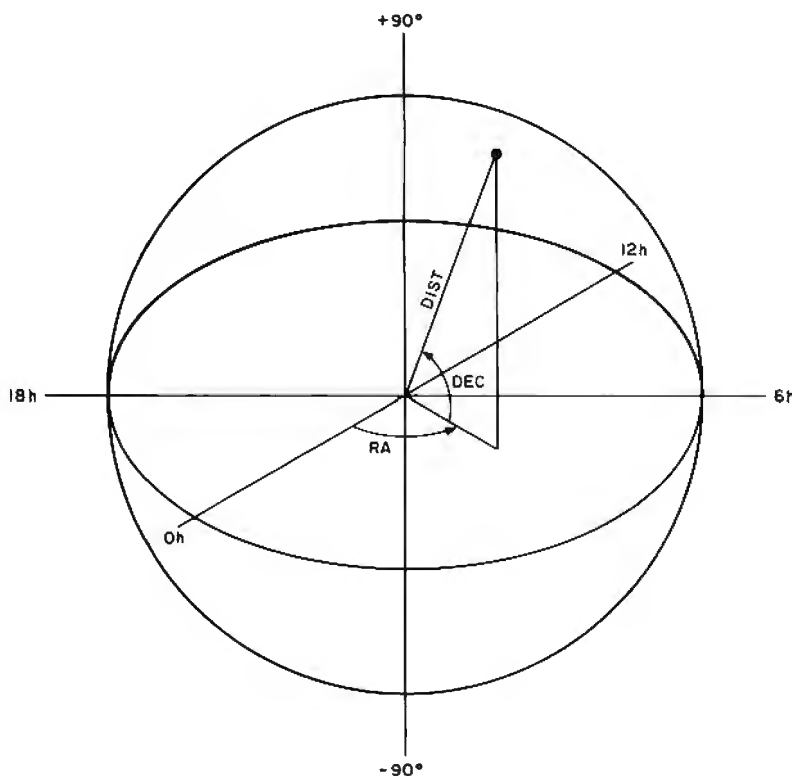

Figure 1: The celestial coordinate system.
Several things are needed to simulate the stars in our galaxy; an algorithm that will allow us to shift our position with respect to the Earth based coordinate system; actual or hypothetical coordinates of stars; and a display device on which to plot the resulting star maps. The first version of this program was written four years ago and run on an IBM 1130 computer. Output was in the form of a printer plot. 50 stars were entered, using data on the 50 brightest stars in our sky. Since positions given in star catalogs are in celestial (spherical) coordinates, right ascension (RA) corresponding to longitude (0 to 23 hours), declination (DEC) corresponding to latitude (-90 to +90 degrees), and distance in light years were entered directly into a disk file. The program then performed the necessary conversions to get values in radians. Figure 1 shows the celestial coordinate system.